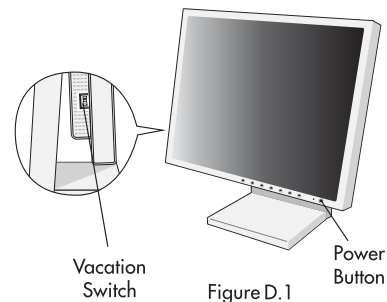

Figure D.1
5. The Vacation Switch on the left side of the monitor must be turned on. Turn on the monitor with the front power button (**Figure D.1**) and the computer.